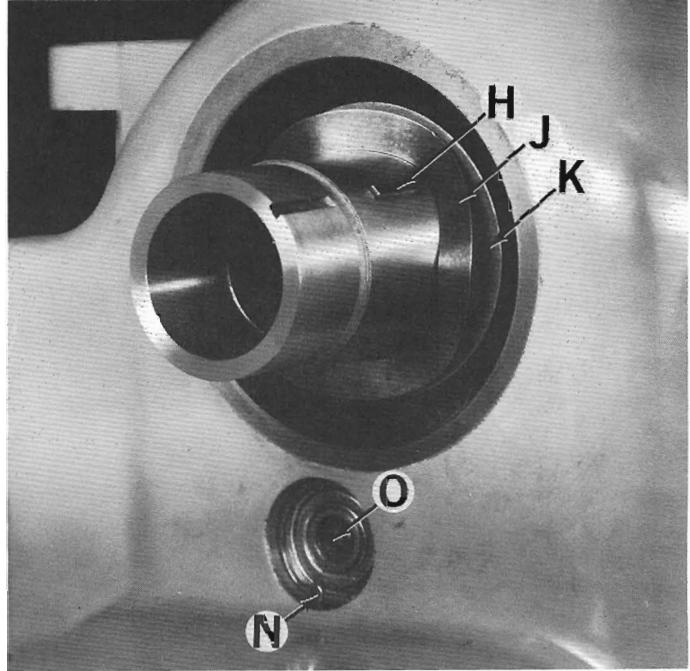

Figure 15 — Handwheel Washers and Key
(D). Remove key "H", Figure 15, and washers "J" and "K".
(F). Remove snap ring "N", Figure 15.
15. Back off push screw "O", Figure 15. Replace idler gear shaft and bearing, Figure 17. (Match timing marks on gear and worm, Figure 21.) Replace snap ring "N", Figure 15.
3. Remove key "H", Figure 15, and washers "J" and "K".